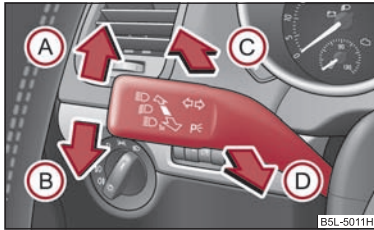

Fig. 43 Turn signal and main beam lever
- Push the lever upwards **(A)** ⇒ fig. 43 or downwards **(B)**.